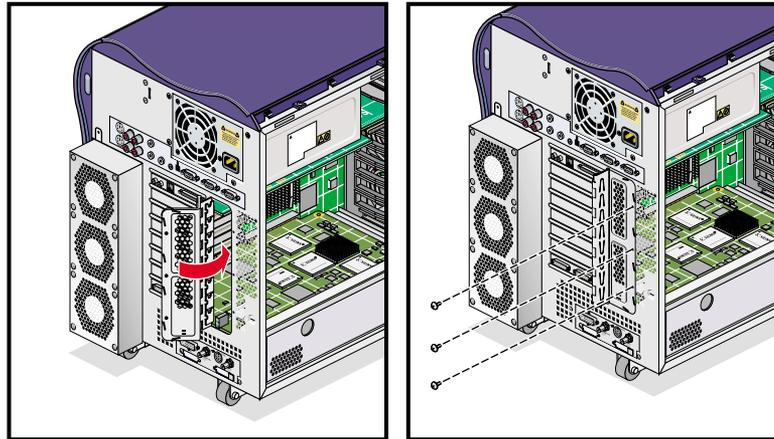

Figure 3-25 Closing the PCI Gate
5. Ensure that the board is properly aligned in the PCI gate. Then close the gate and install the three screws that secure it to the enclosure (see Figure 3-25).
Note: If the XIO board you are installing is equipped with metal handle, ensure that the notch in the handle is aligned with the locator pin in the enclosure before closing the PCI gate (see Figure 3-25).